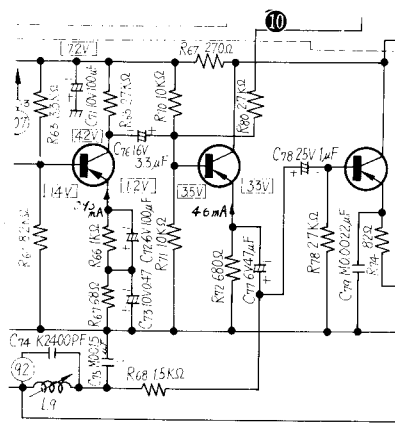

Fig. 37
4. Recording Indicator Circuit (Refer to Fig. 37)